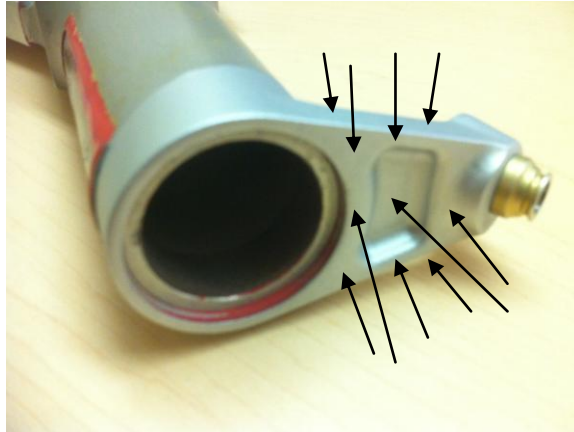

Figure 1 – Pitch Control Arm – Tail Rotor Blade
- 1. Preparation for Inspection:** Remove affected Tail Rotor Blades from Helicopter. Mask Cross-Holes and Main Bore with **Aluminum Tape** to ensure **Paint Stripper** does not get inside blade. Remove Paint from front and back surfaces of the **Pitch Control Arm – Tail Rotor Blade** on affected Tail Rotor Blades using **Paint Stripper** on all affected Tail Rotor Blades (See **Figure 1**). Solvent wipe affected areas with **Isopropyl Alcohol** and **Clean Wipes**.
- 2. Inspection:** Using a **10x Magnifying Glass** and **Bright Light**, inspect all newly exposed surfaces of the **Pitch Control Arm – Tail Rotor Blade** on all affected Tail Rotor Blades (See **Figure 1**). Corrosion, Pitting, or Cracking is not permitted. Any evidence of Corrosion, Pitting, or Cracking renders the subject blade as **SCRAP**. Verify exposed areas have a “Dimpled” Shot Peen surface texture. Evidence of blending or material removal, which affect the Shot Peen surface appearance in the exposed areas, renders the subject blade as **SCRAP**. Verify in maintenance records that no rework has been done in this area.